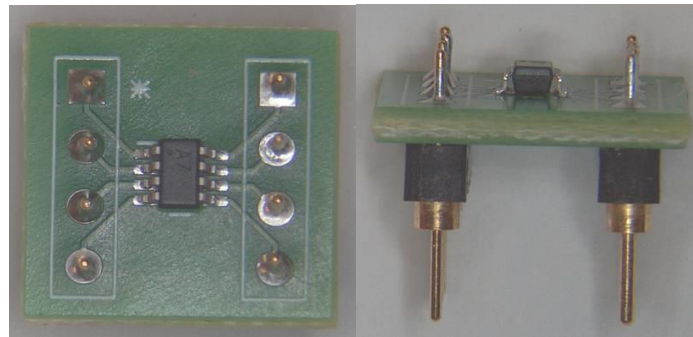

Figure 2-6. Fully assembled PCB
6. Position the separated PCB with the soldered IC over the terminal strips and solder each pin in place. Carefully remove the PCB from the DIP socket. Figure 2-6 displays a fully assembled PCB.